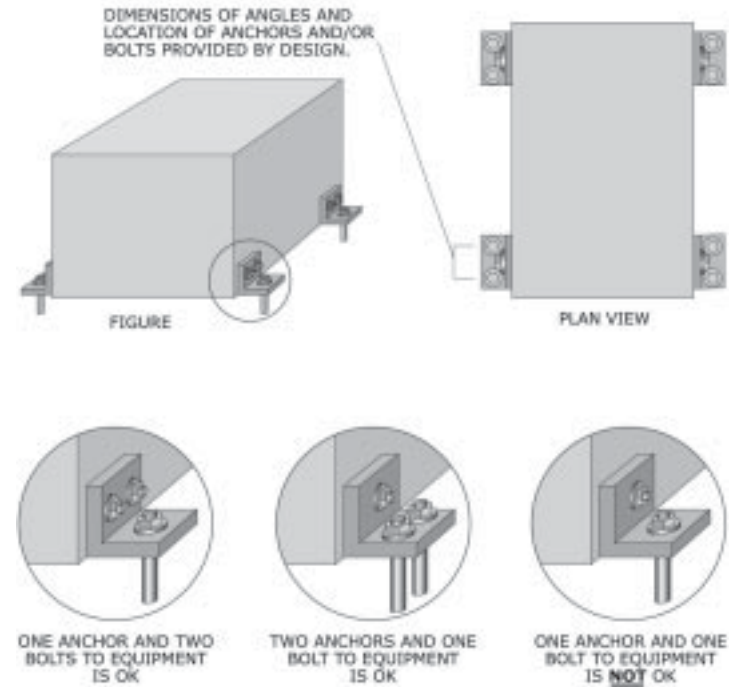

Figure 78: Four or more angles used to attach the equipment to the building.
- Four or more angles on each side of equipment bolted to the concrete floor/pad (Figure 78, page 57).